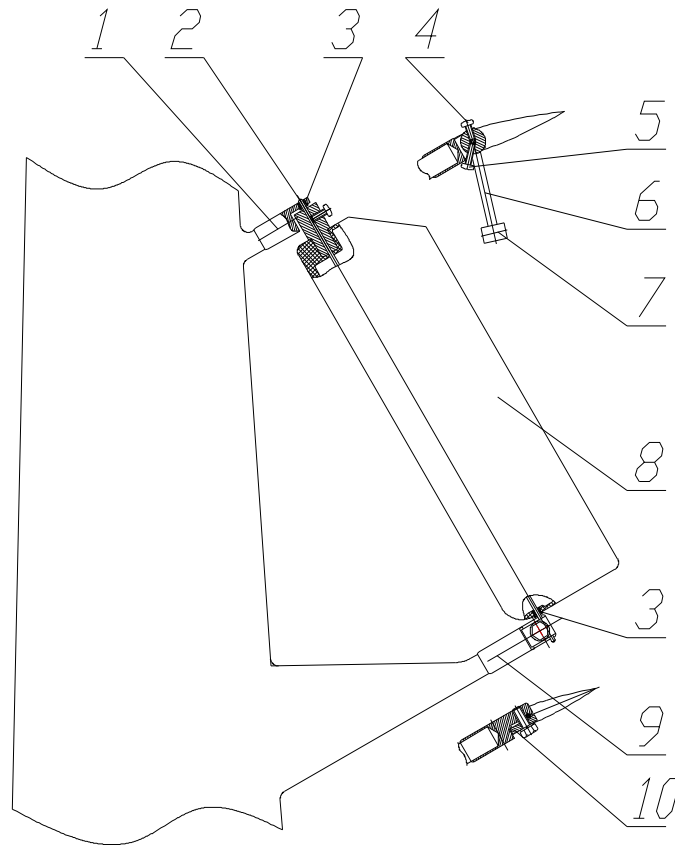

Fig. 3.
The control forces are created by stabilizers (8) (fig. 3). Stabilizer is fixed behind blade tip using brackets (1, 9), bushes (3) and torsion bar (2) – the axis of its rotation. Torsion bar has the preliminary tightening (gripping) +30 degrees and fixed from one side on the flattened surface by screw (4) to stabilizer, from another side it is fixed on the bracket (9) with the help of ledge (10). Screw (5) is the stop block and it provides the required initial angle for setup of stabilizer relative to blade. The initial stabilizer's angle provides the wind turbine start and it's spinning to the operating mode rotations. In further increasing of wind turbine rotation rate, centrifugal force, which acts on control loads (7), gets over the